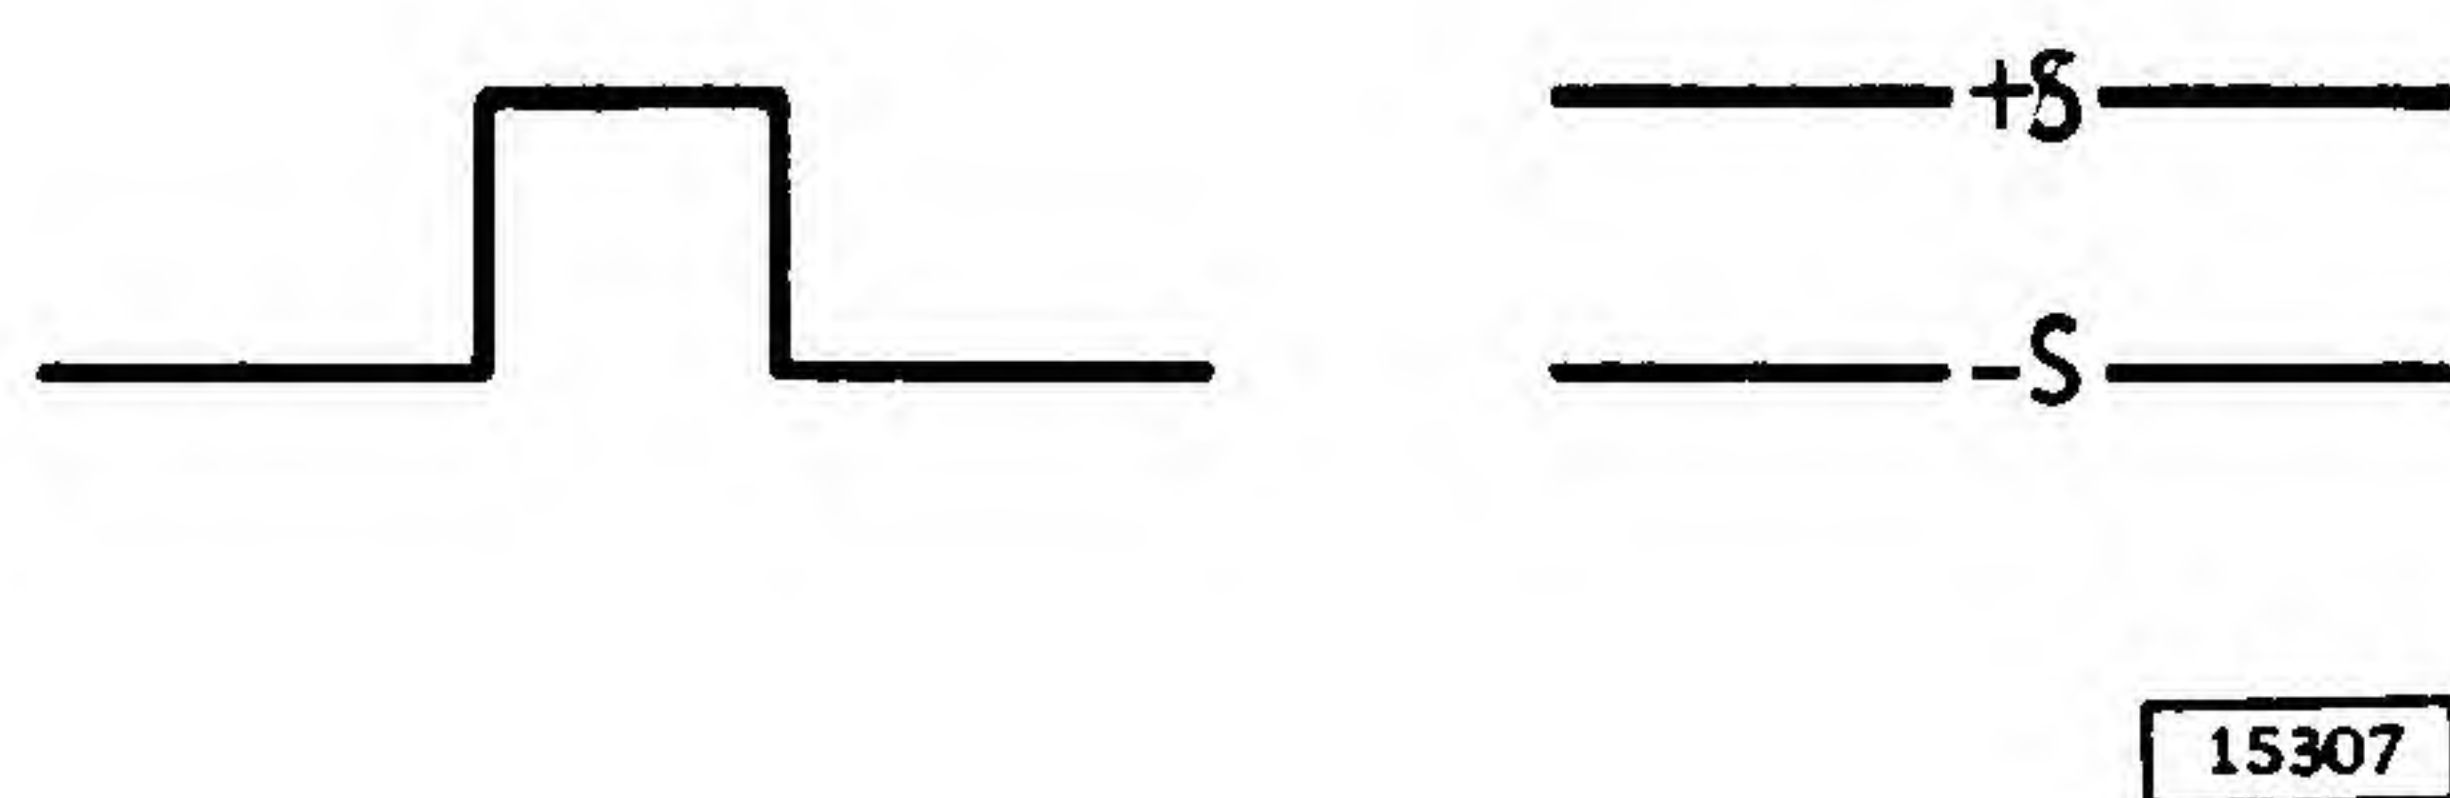

Figure 4-2. Correct Index Pulse
1. The +S output pulse of the Index Amplifiers (TEB-01A5E07B and 01A5E07C) should be a minimum of 25 microseconds (Figure 4-2) and a maximum of 65 microseconds as measured at the -6 volt level.
(Figure 4-2). Adjustment of one-fourth turn moves the transducer approximately 0.015-inch in or out.